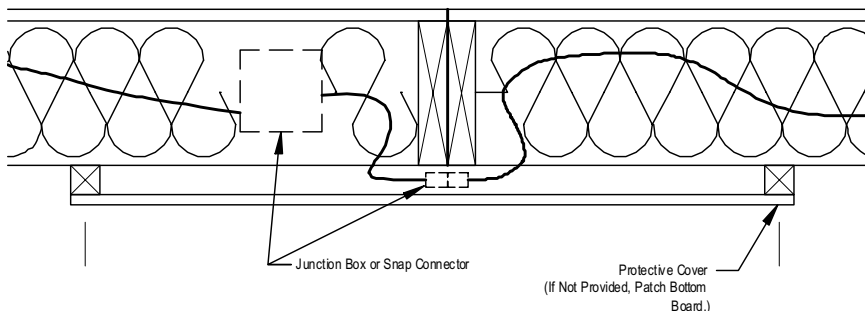

Figure 56. Floor electrical crossover wires with bumped-out access panel
2. **Route wires.** Pass the wires through predrilled holes or notches in the rim joist or if there is a single bumped-out access panel as in **Figure 56**, then under the rim joists. If holes or notches have not been provided and there is no bumped-out access panel, drill maximum one-inch diameter hole(s) half-way up the rim joists on each home section, making sure the holes align and feed the wire through the hole.